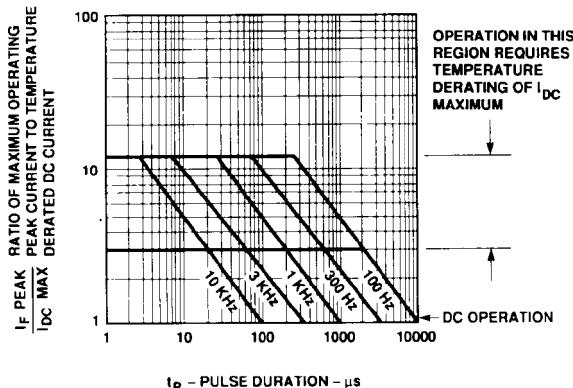

Figure 9. Allowable Peak Current vs.
9. See Figure 9 to establish pulsed conditions.